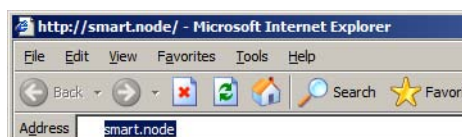

Figure 11. Using a web browser to access the SmartNode configuration interface
- Once IP connectivity is established, use a web browser to get access to the SmartNode configuration interface. Enter “smart.node” in the address bar to get started (see figure 11).